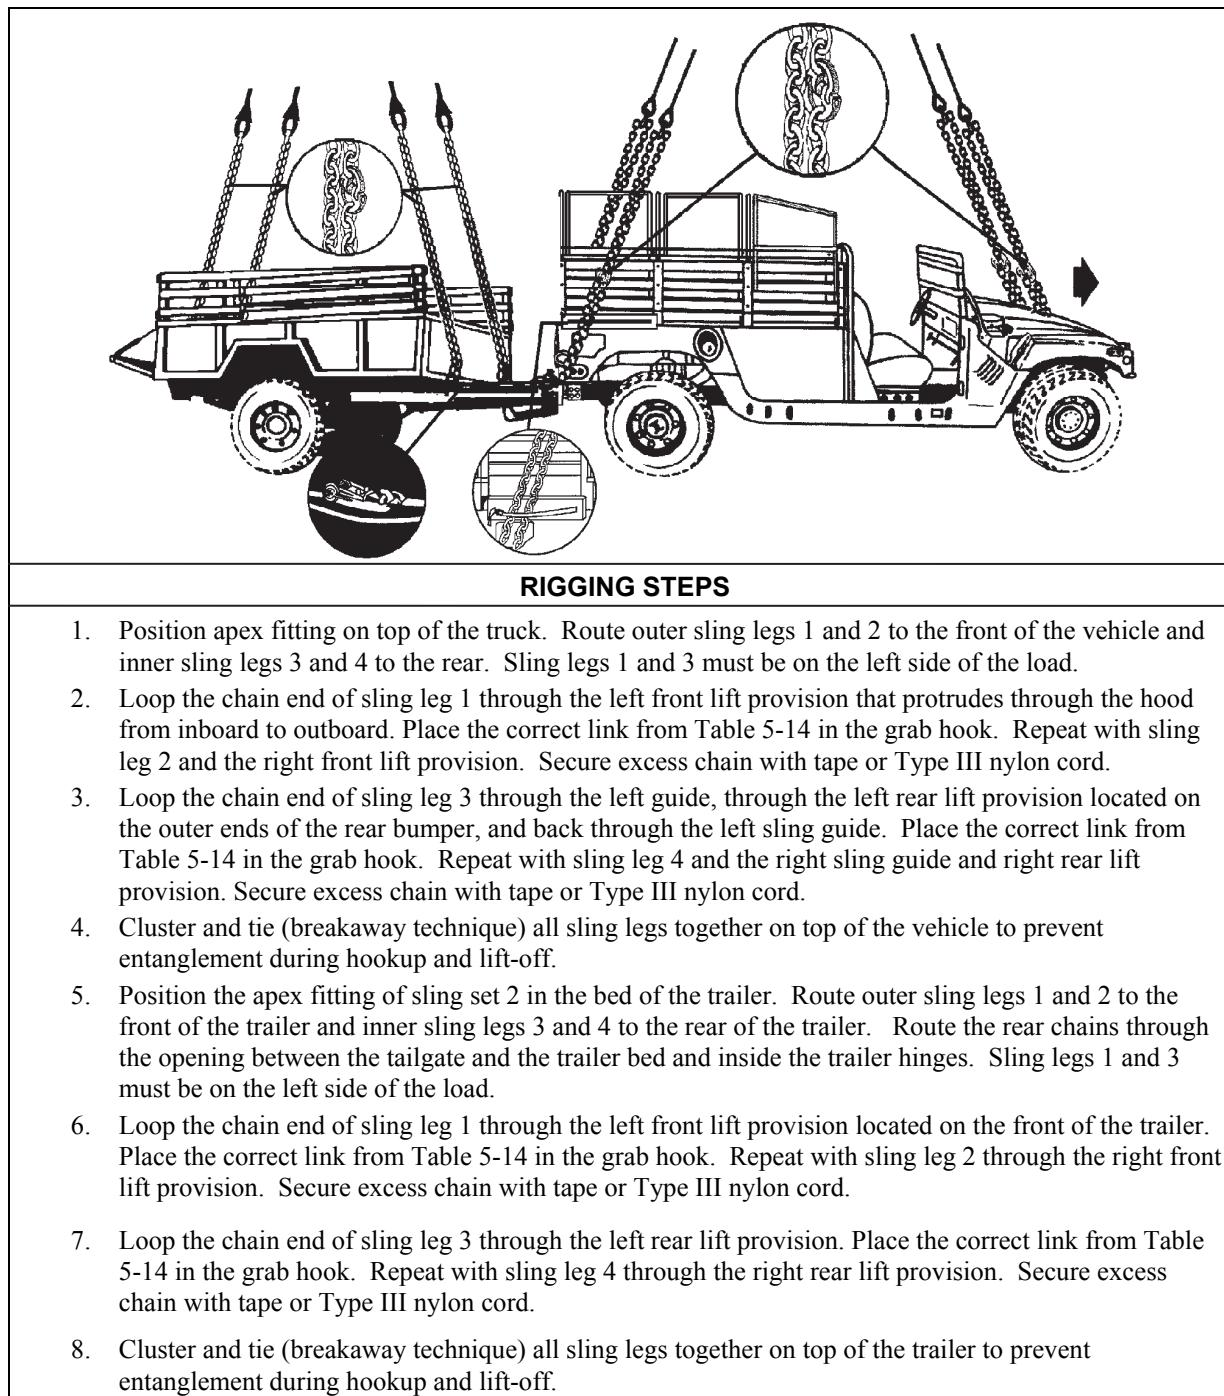

Figure 5-14. M1097A2 with Advanced Field Artillery Tactical Data System Full Size Soft Top Installation Kit and M101A1 Trailer
- **Rigging.** Rig the load according to the steps in Figure 5-14.